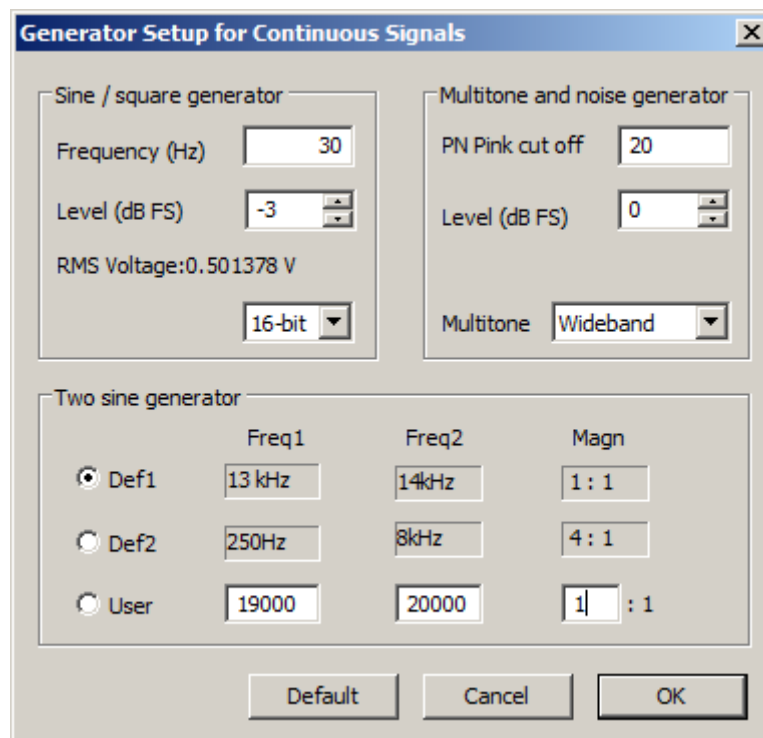

Figure 2.1 The dialog box for the signal generator setup
3. Click the menu **Generator->Setup** or click the toolbar icon . You will get the dialog box shown in Fig. 2.1.